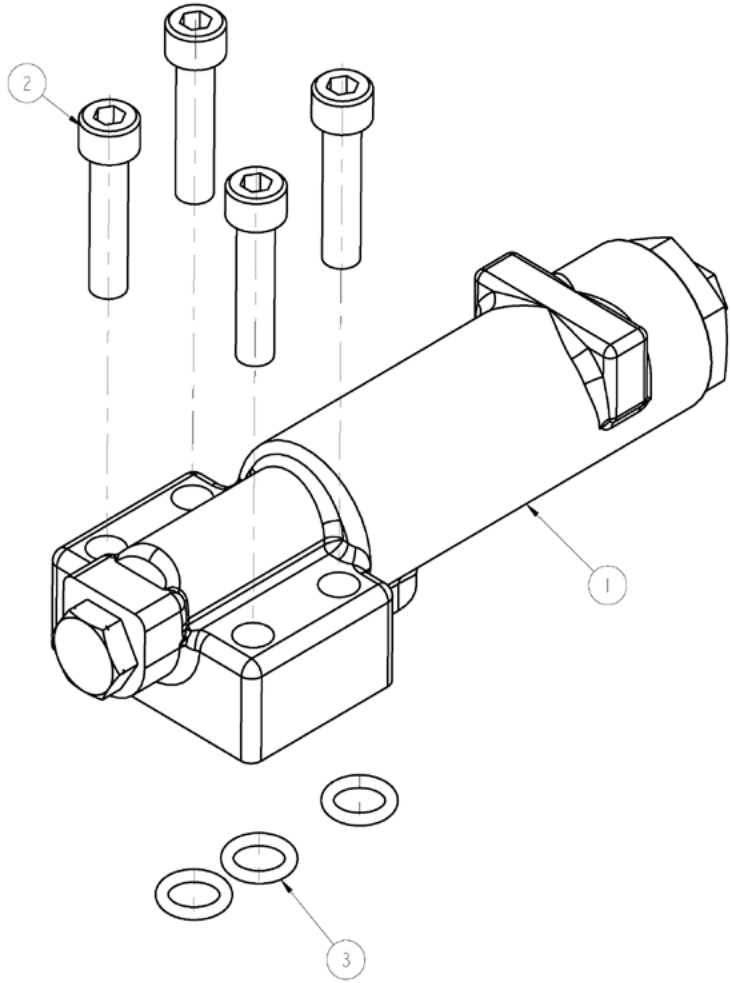

Figure 23
3. Dismantle the screw plug assembly (Figure 23, items ⑨ ⑩).
4. Remove the pressure valve core (Figure 23, item ②).
5. Remove the assembly of the screw plug assembly (Figure 23, items ⑥ and ⑤), the adjusting rod (Figure 23, item ⑦) and the lock nut (Figure 23, item ⑧).
6. Take out the pressure spring (Figure 23, item ④) and the two spring seats (Figure 23, item ③).
1. Insert the pressure valve core (Figure 23, item ②).
2. Install the screw plug assembly (Figure 23, ⑨ ⑩), and tighten it with a torque of 29-32 Nm.
3. Install the pressure spring (Figure 23, ④) and two spring seats (Figure 23, ③).
4. Install the assembly of the screw plug assembly (Figure 23, ⑥ ⑤), the adjusting rod (Figure 23, ⑦) and the locknut (Figure 23, ⑧), and tighten the screw plug with a torque of 97-106 Nm.